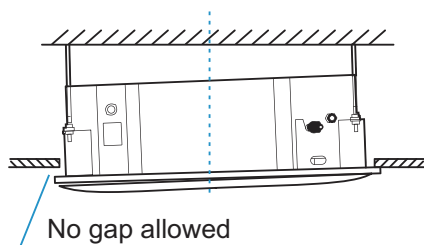

Figure 3.18
- No gap is allowed between the ceiling and the panel. See Figure 3.18.